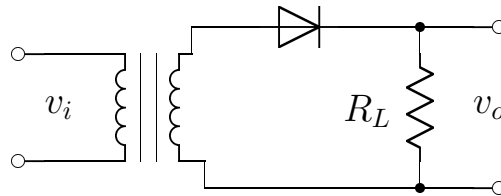

Figure 14: A half-wave rectifier using a 1N4004 diode. The input voltage, v_i , is the AC from the wall outlet.
A simple series connected diode which blocks half the AC waveform leaves you with a finite DC or average level. Use the oscilloscope to observe the output waveform of the circuit shown in Fig. 14. Can you compute the average, or DC, voltage? Is what you see consistent with part (1) and with the diode curves you measured in Lab 1? Use $R_L = 1k\Omega$. Draw a sketch of what you observe in your lab notebook (or capture a sweep and make a plot of the data).